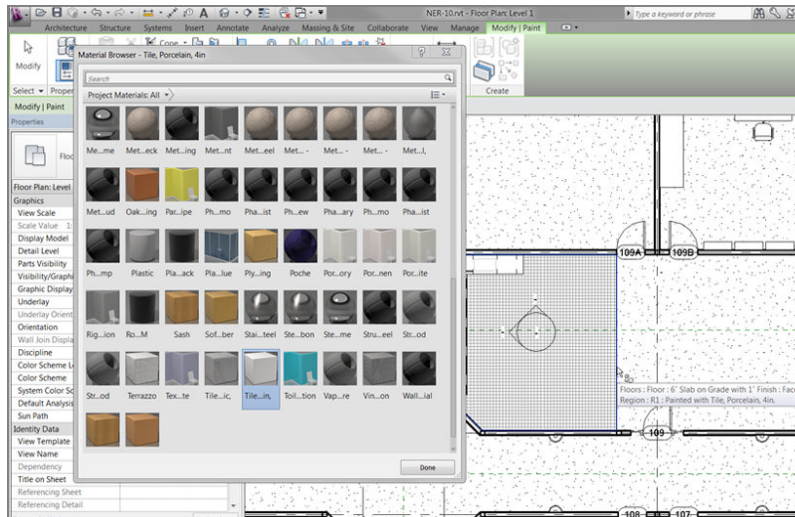

FIGURE 9.71: Selecting porcelain tile
2. Select Tile, Porcelain, 4in from the Material Class drop-down list, as shown in Figure 9.71.